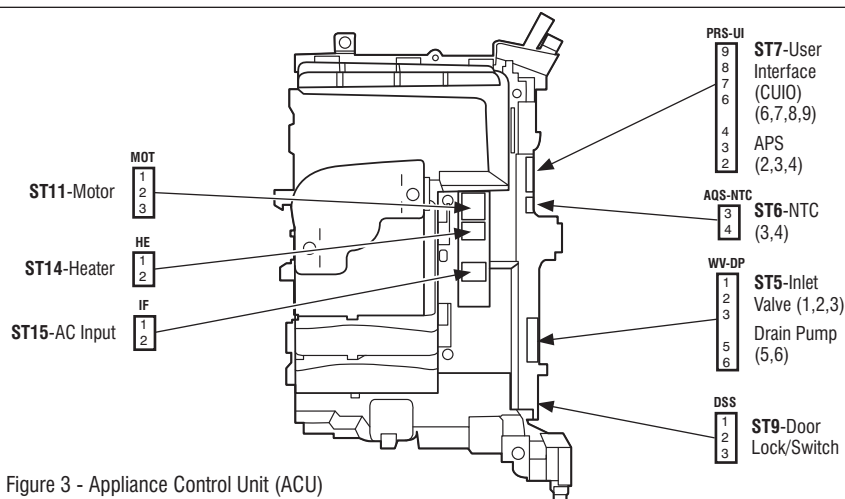

Figure 3 - Appliance Control Unit (ACU)
4. Visually check that all connections to the ACU are fully inserted. See Figure 3, below.
9. With a voltmeter set to **AC**, check for input line voltage to the ACU across pins 1 and 2 of connector **ST15** AC Input (IF). See Figure 3.
3. Visually check that all ACU connectors are inserted all the way into the ACU. See Figure 3, page 16.